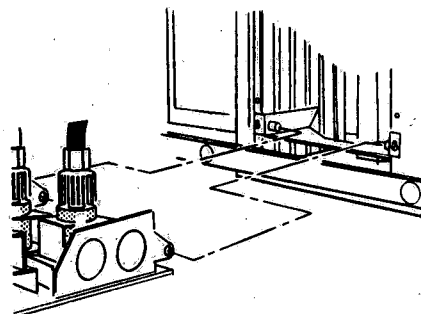
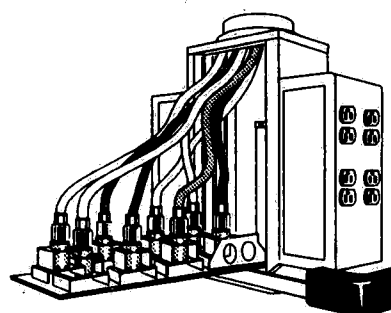

Figure 6-9. Position Gas Outlet Assembly
Figure 6-10. Lock Hinges
1. Position the bottom of the gas outlet assembly at the rear base of the support head assembly (see Figure 6-9) and lock hinges in place (see Figure 6-10).